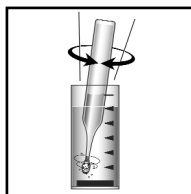

Figure 2
2. Dissolve the crystals on the tip of the ampoule in the sample by stirring the sample briefly with the ampoule tip (fig 2).